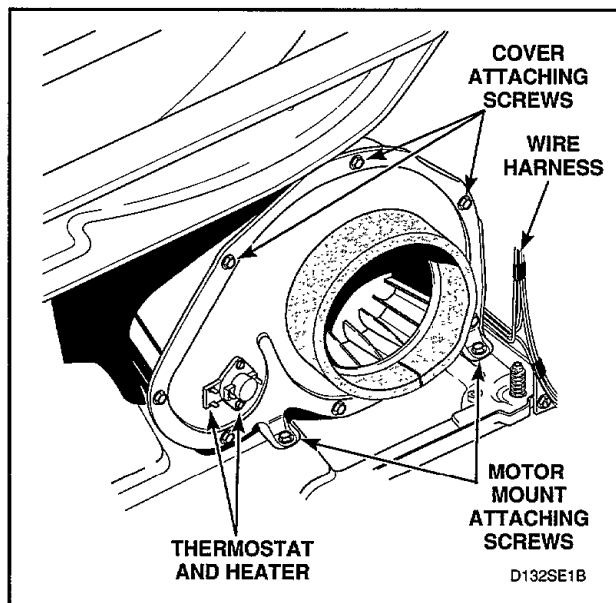
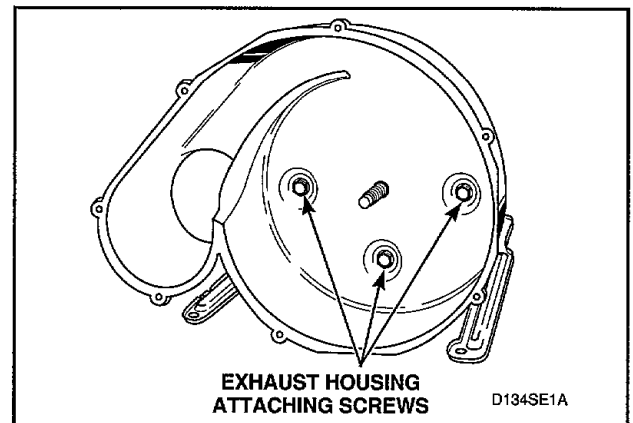

Figure 35
Figure 38
- e. Disconnect wires from thermostat and heater, *Figure 35*.
IMPORTANT: When reinstalling motor and exhaust assembly, be sure wire harness on right side is clipped to motor mounting bracket and is routed along dryer base (between motor mounting bracket and right side of cabinet), *Figure 35*. Tab on rear of motor mounting bracket must be slid into slot in dryer base. Make sure the belt has been installed on the correct side of the idler lever, *Figure 35*.
- (1) Remove screws holding cover to housing, *Figure 35.*
- (2) Hold motor pulley securely and unthread impeller from motor shaft (right hand thread). Use a 7/8 inch, 6 point socket to aid in the removal of the impeller.
- (3) Remove three screws holding the exhaust housing to the motor mounting bracket, *Figure 38.*